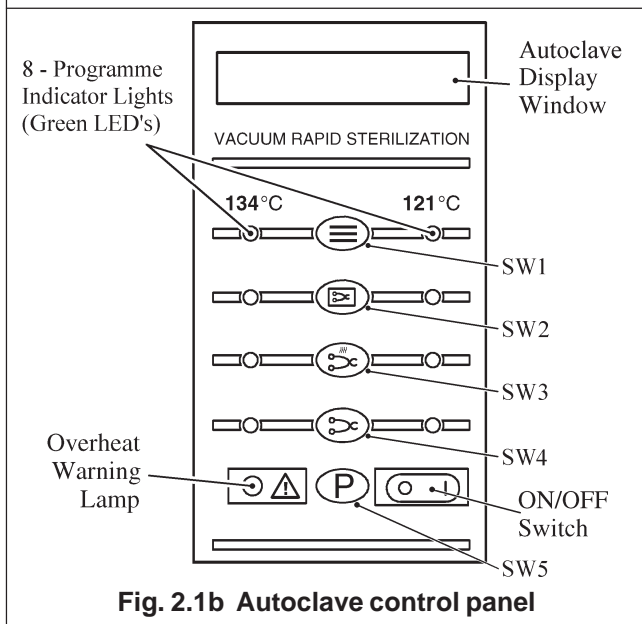

Fig. 2.1b Autoclave control panel
- Four Programme Selector Buttons (Fig. 2.1b, SW1 to SW4). These are used to select and start particular cycles. They can also be used to put the autoclave in the 'Engineering' mode as described later.
- Green Light Emitting Diodes (LED's) (Fig. 2.1b). There are eight LED's which flash primarily to indicate the cycles available for selection that can be started and, when this has been done, to indicate the particular cycle which is in progress.
- Power On/Off Switch (Fig. 2.1b). This switch controls the mains power supply to the autoclave.
- Overheat Warning Lamp (Fig. 2.1b). Illumination of this lamp indicates that one of the two protective overheat cut-outs has operated.
Note: It is necessary to override the electrical door lock to clear an error code. This is done by setting the power switch to 'off', then, after a few seconds, setting it back to 'on' again while pressing and holding the 'P' selector (SW5) on the front panel (Fig 2.1b).
7 Power is switched on by selecting the power switch (O-I) to I (Fig. 2.1b). If the chamber door is open there now follows a single audible tone accompanied by the display 'SES Vacuum LS3+cycle count+version of software', which then changes to 'CLOSE THE DOOR'.
9 After the work trays have been put in the chamber and the door closed, a programme can be selected and initiated by pressing one of the programme selector buttons (Fig. 2.1b). If the autoclave has a printer it will automatically start when the programme selector button is pressed.
11 The autoclave operates automatically at the touch of a single programme selector touch button (Fig. 2.1b), and has eight programmes:
12 Each programme selector button on the control panel (Fig. 2.1b) will select either the 134°C or 121°C cycles. The programme indicator lights, at each side of the programme selector buttons, will change to indicate a change of selection between 134°C and 121°C each time
30 In the unlikely event of overheating, the red overheat warning lamp (see Fig. 2.1b and Fig. 2.4 item 8) at the front of the autoclave will illuminate. If this happens, first allow 10 to 15 minutes to elapse for the autoclave to cool, then check the water level in the reservoir and top-up if required. When the water level is correct, press the 'PRESSTO RESET' button at the rear of the cabinet (Fig. 2.4 item 21) and restart the cycle as normal. If the fault persists, switch off the autoclave and call an Eschmann Trained Engineer.